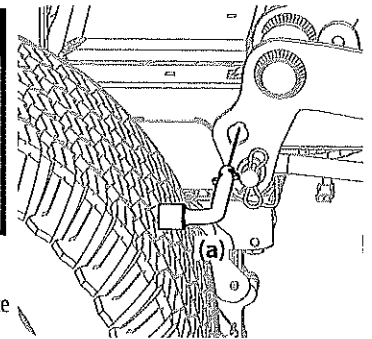

Figure 44
5. On tractors equipped with the deck lift knob, use the deck lift pedal and deck lift knob to place the deck in the lowest position and use the multi-tool (a) to lock the deck lift components in place as shown in Figure 44. On tractors with a deck lift handle, lower the deck into the lowest position.